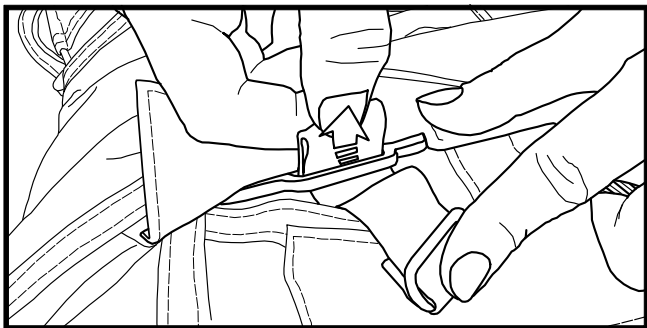

Figure 22. Routing Strap Loops into Front Carrier Shoulder Buckles.
- e. For both shoulders, insert strap loops into the front carrier shoulder buckles (Figure 22).